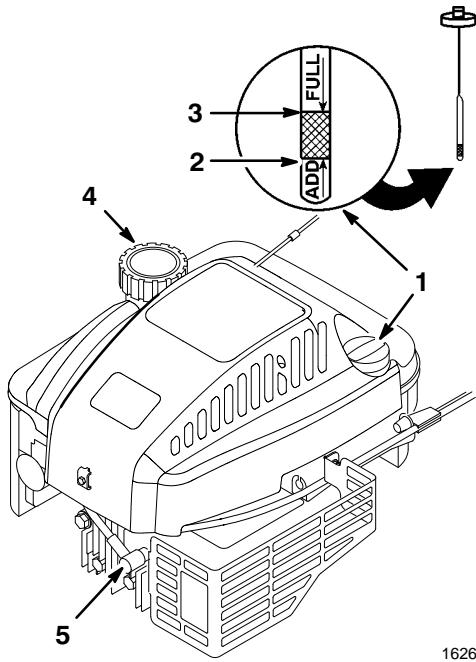

Figure 7
Before each use, make sure that the oil level is between the *Add* and the *Full* marks on the dipstick (Fig. 7).
2. Clean around the dipstick (Fig. 7).
6. Read the oil level on the dipstick (Fig. 7).
1. Remove the wire from the spark plug (Fig. 7).
2. Clean around the fuel tank cap (Fig. 7).
3. Remove the cap from the tank (Fig. 7).